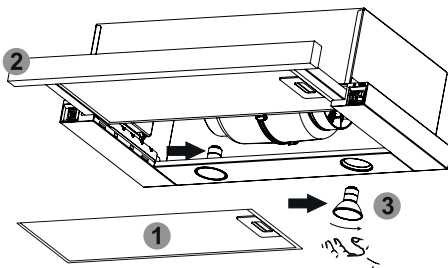

Fig. 6
8.6. To remove the aluminium filter (Fig. 6), press the spring lock of the aluminium filter 1 and remove it. Extract the pull-out panel with filter 2 and remove the aluminium filter 3.